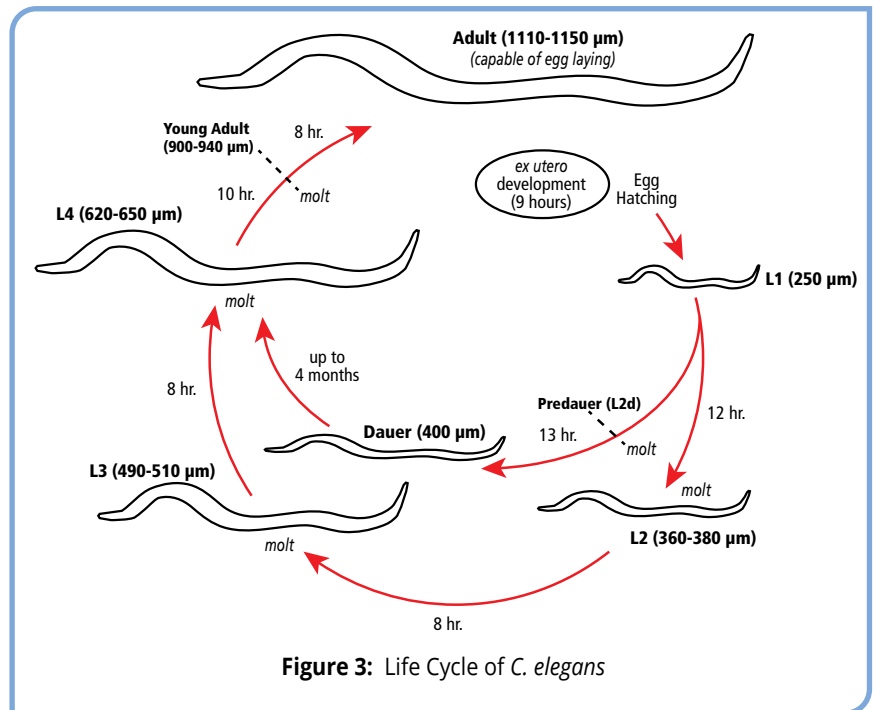

Figure 3: Life Cycle of *C. elegans*
C. elegans develop from embryo to adult in four days, allowing for rapid studies in the laboratory (Figure 3). The worms are grown on agar plates or in liquid culture, and they feed on *E. coli*. After being laid, the worm embryo will develop for approximately 14 hours before hatching. Juvenile worms progress through four larval stages (L1-L4) over the next two days, increasing in size with each stage. After the fourth larval molt (L4), the worms are reproductively mature, meaning that they can be used for further genetic studies.